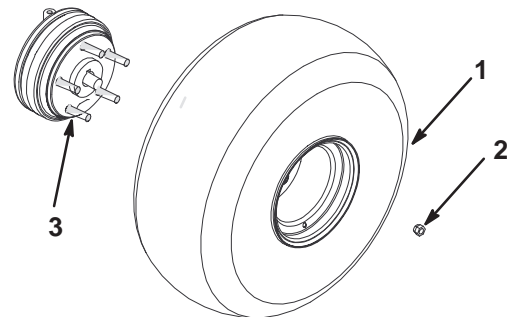

Figure 2
3. Mount the wheels with the previously removed fasteners (Fig. 2) and torque to 45–65 ft.-lb. (61–88 N-m).